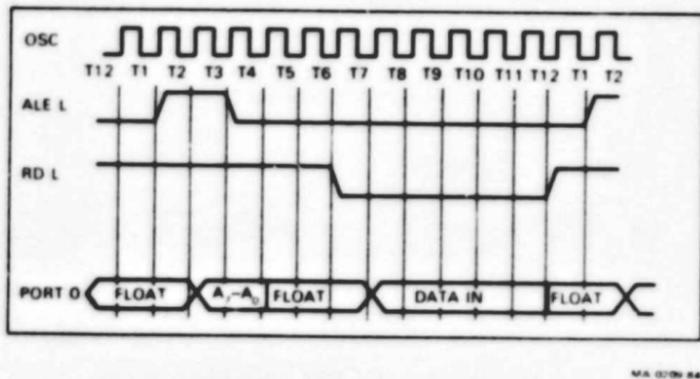

Figure 2-15 Data Read Cycle Timing
**2.3.9.1 Data Read Timing Cycle** – The read cycle begins during T2, with the assertion of the ALE signal (Figure 2-15). The falling edge of this signal latches the address onto the low address bus. This address selects which control register the read address decoder enables. At T5, the address is removed from the port 0 bus. The data read control signal (RD L) is asserted during T7. This signal allows the address decoder to enable the selected output line to toggle low. When this happens, the data from the control register is released to the data bus. The read control signal also enables the data buffer to transfer this data to the CPU for processing. After T12, the read control signal returns to the unasserted state. This causes the addressed device to float its bus drivers and relinquish the data bus. Figure 2-15 shows the data read cycle timing.